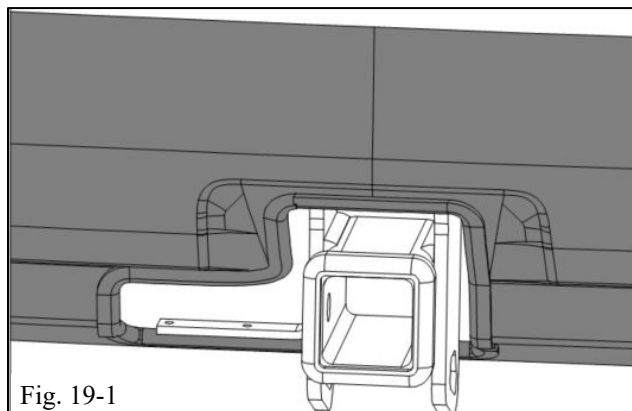

Fig. 19-1
- (a) Follow Steps 5 through 9 in reverse and use the original fasteners to reinstall the bumper onto the vehicle (Fig. 19-1).